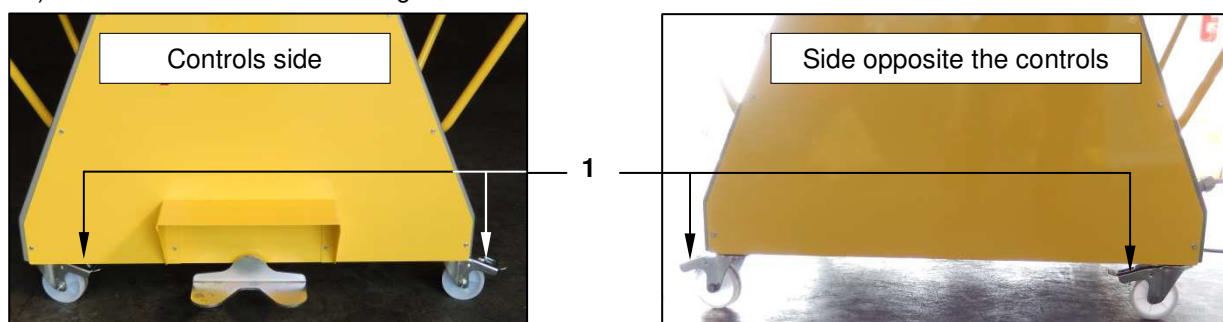

Figure 10 - Wheel brake levers
When positioning the machine, leave adequate clearance around it, not only for work related to production, but also for any other work that needs to be carried out, for example, cleaning. It is usually sufficient to leave 1000 mm of free space on each side, unless the machine is at the edge of an escape route, in which case at least 1200 mm of space should be left. All doors close to the machine must be unobstructed and easy to open. The same applies to doors of furniture, appliances, machines etc. Before using the machine, lock the wheels (if present) with the brake levers ref. 1 Figure 10
The installation/removal of tables for model SF600 machines requires two operators at the same time to carry out the work, of which at least one has mechanical installation experience. The second operator is required to help support the table while the work is being carried out. Before starting, lock the wheels of the machine with the brake levers (see Figure 10) and **wear at least safety footwear with reinforced toecaps and abrasion resistant work gloves**.